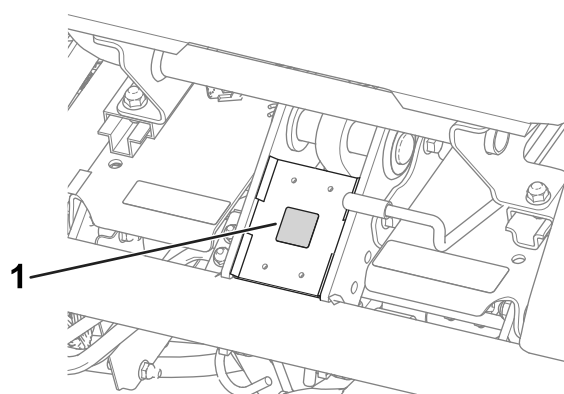

Figure 15
- Apply the CE mark decal (Part No. 93-7252) to the frame under the front of the seat (Figure 15).